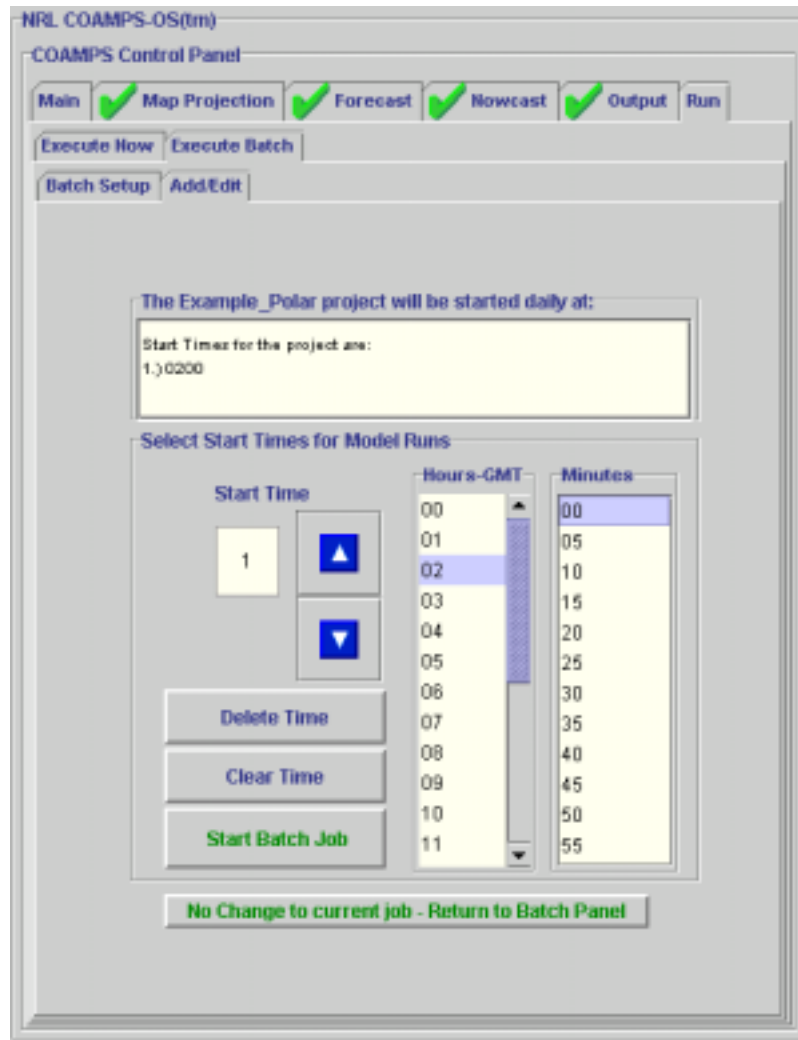

Figure 34. Add New Batch Job Control Panel
- Select a project from the **Project Files** listing and click on the **Add to Batch Queue** button. Clicking the **Add to Batch Queue** button opens the **Add Batch Job Control Panel** shown in Figure 34.